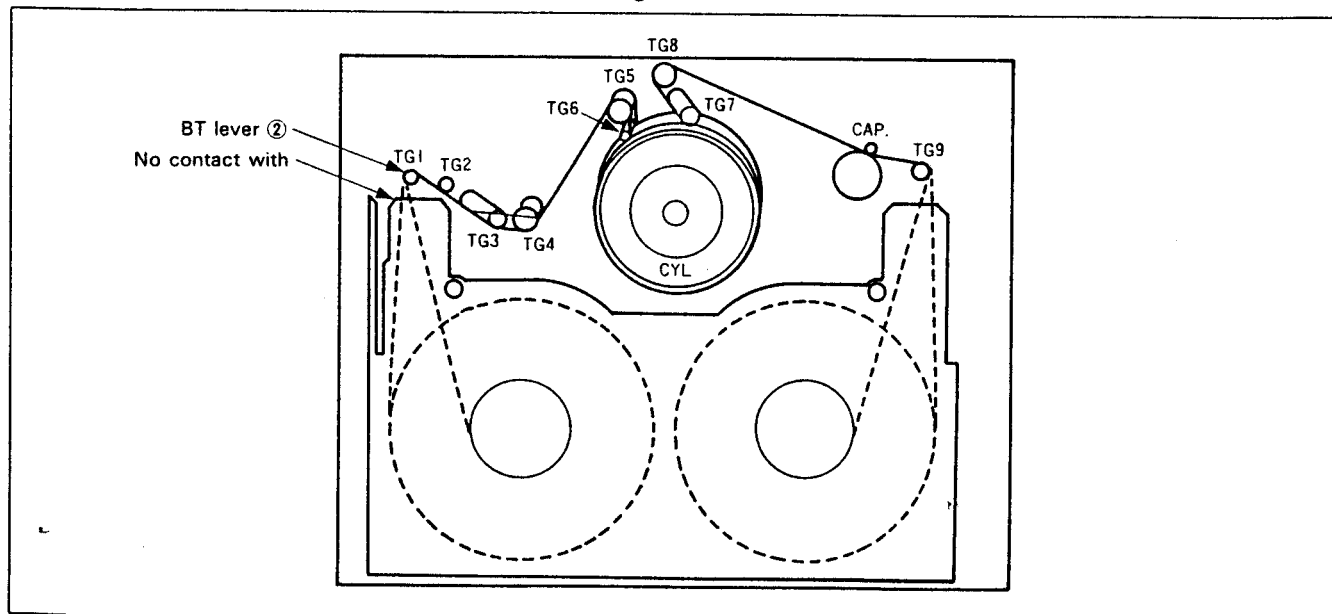

Fig. 2-33.
- 1) Running the leading tape (P6-120), verify that there is no contact between the tape and the cassette half (See Fig. 2-33).
- (4) Reinstallation procedure